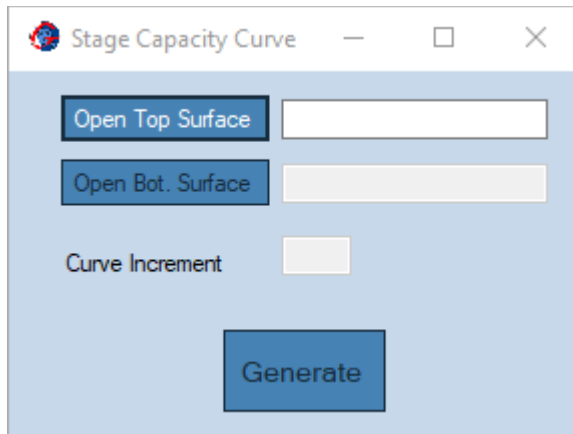

Figure 12: Stage Capacity Curve dialog window.
- **Stage Capacity Curve:** Opens the dialog window shown in Figure 12. This feature computes the volume versus elevation between two 3D surfaces (section 5.4) and records the data in a text file.